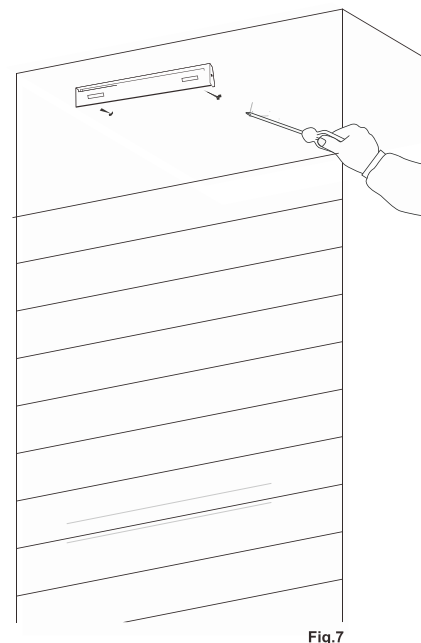

Fig. 7
3. Install the flue cover mounting bracket with screws to the wall as marked (Fig.7). Please mounted recirculating T pieces together with flue cover bracket if recirculating mode is used. (Fig.12)